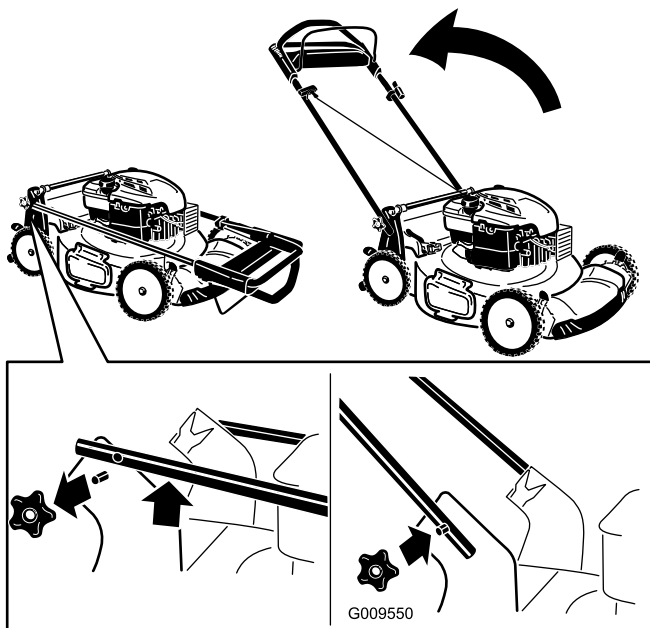

Figure 3
1. Remove the handle knobs from the mower housing (Figure 3).